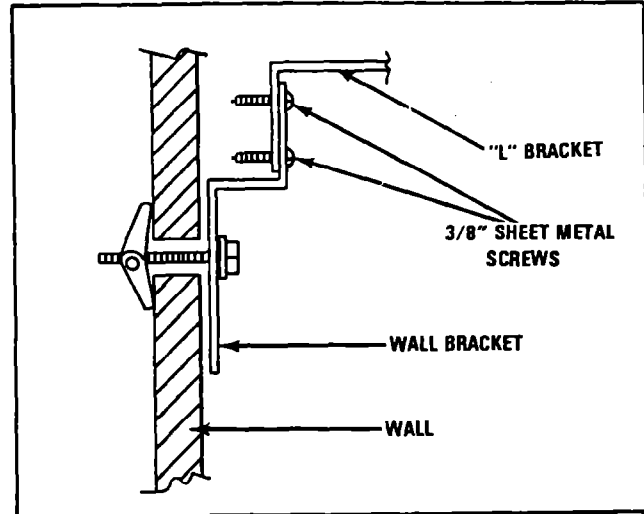

FIGURE 8
10. Install the shelf assembly to the wall bracket by hooking the shelf "L" bracket over the top of the wall bracket, being sure that the tab on the "L" bracket is between the wall and the wall bracket. Loosely secure the shelf assembly at top of wall bracket with one 3/8" sheet metal screw in each "L" bracket. See Figure 8.
14. Reinstall shelf assembly to wall bracket. Secure each "L" bracket to the wall bracket with two 3/8" sheet metal screws. See Figure 8.